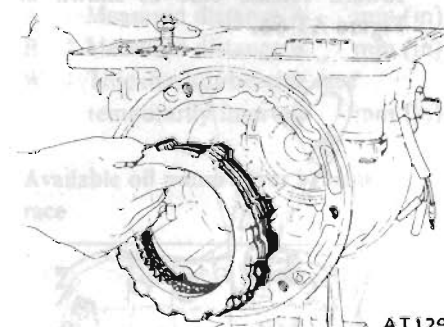

Fig. AT-63 Removing drive and driven plates
17. Pry off snap ring using a pair of pliers. Remove retaining plate, drive plate, driven plate and dish plate in that order. See Figure AT-63.